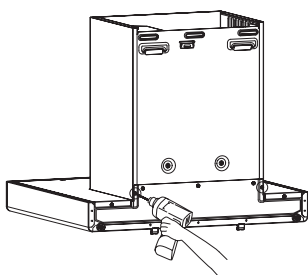

Fig.6
2. Remove the fan cover and decorative hood (only for EMG6020-C/EMG6020-CY): remove the 2 screws that fix the fan cover behind the main body with a screwdriver(see Fig.6), and then grab the fan cover and decorative hood with both hands to take them out upward(see Fig.7);